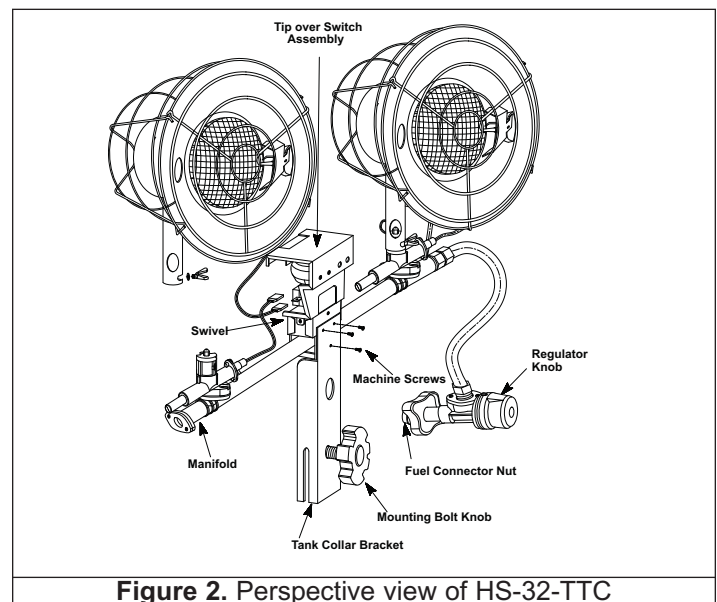

Figure 2. Perspective view of HS-32-TTC
1. Place Tank Collar Bracket on top of Center Plate. Be sure Mounting Bolt Knob is on bottom as shown in Figure 2.